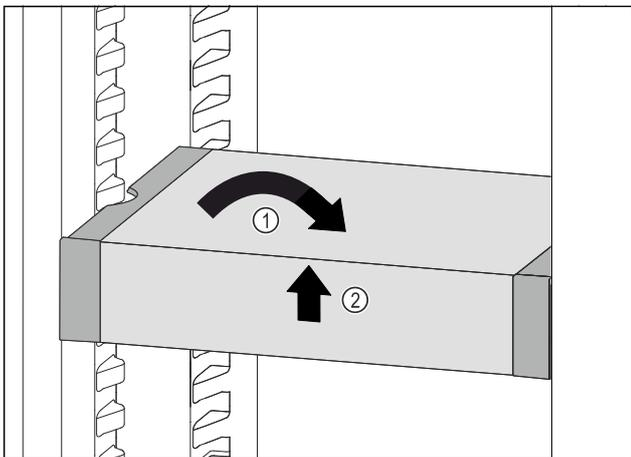

Fig. 77
- ▶ Set VarioSafe straight. Fig. 77 (1)
- ▶ Lift VarioSafe at the front. Fig. 77 (2)